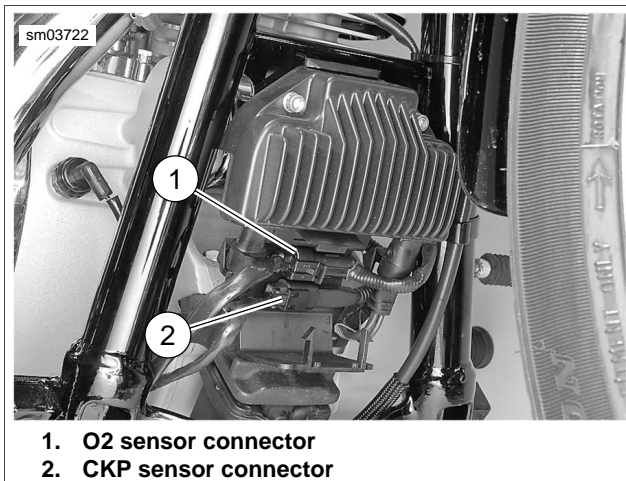

Figure 8-34. Front Electrical Caddy and Connectors
3. See Figure 8-34. Remove CKP sensor connector (2) from front electrical caddy.